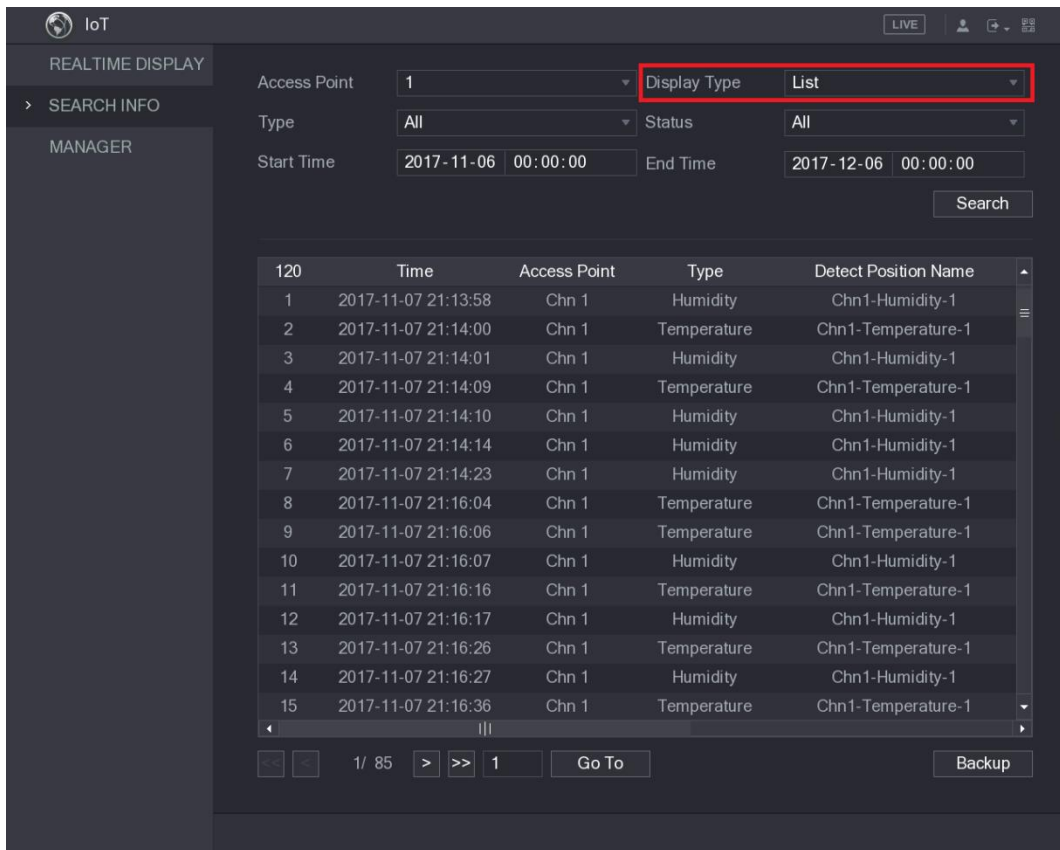

Figure 5-210
- For the data displayed in list, see Figure 5-210.